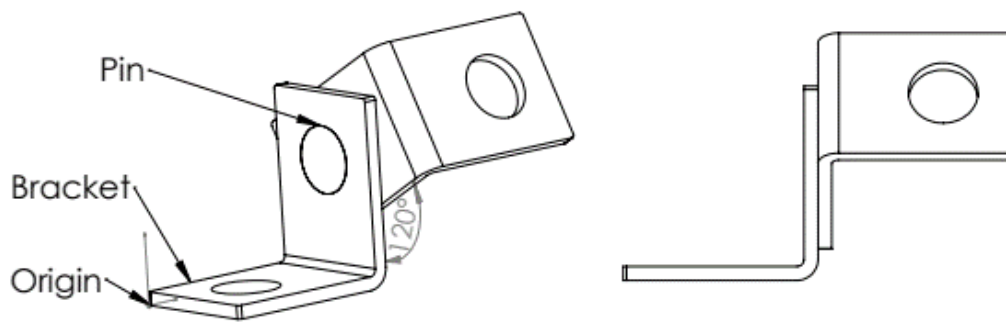

Figure 4.1
Q4. The following Figure 4.1 is to be used to answer Questions 4(a-b) where two views of the same model are available.
- b) In Figure 4.1, Brackets are positioned with angel mates of  $120^\circ$ . Change this angle to  $130^\circ$ . What is the centre of mass of the assembly? You need to provide the Figures of Assembly and Mass Properties.